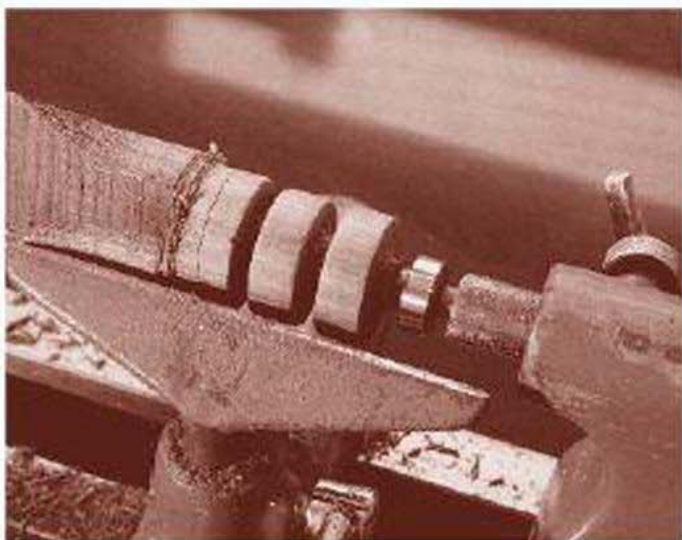

FIGURE 15-9
- 5** Take the parting tool and sink the waste to a depth of about $\frac{3}{4}''$, so you are left with a central core at about $\frac{1}{2}''$ (Fig 15-9).